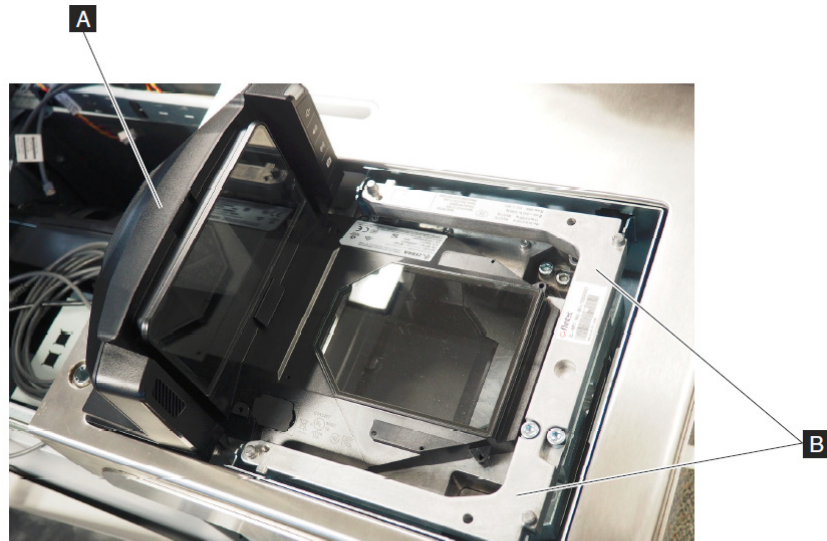

Figure 195. Scanner/scale lift points
4. Using the lift points (see Figure 195), lift the scanner/scale and place it into the scanner/scale cabinet.